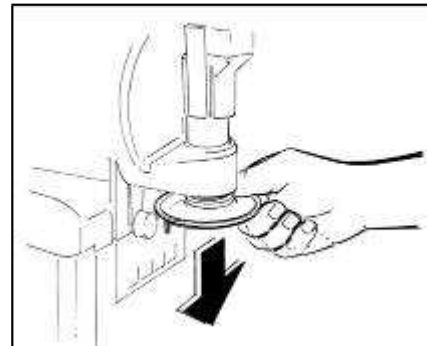

Рис. 28
- Remove the accessory to give a "star" peculiar shape to the dispensed product (Рис.28).